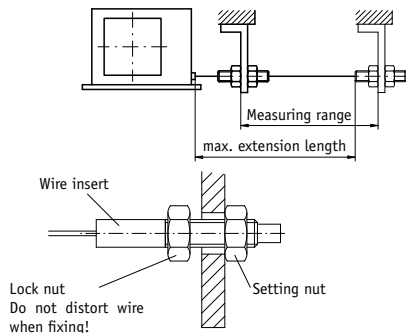

Fig. 2: Extension length check
- After mounting, check that the maximum extension length complies with the application (Fig.2).
Pull out the wire perpendicular to the wire outlet (Fig. 2)